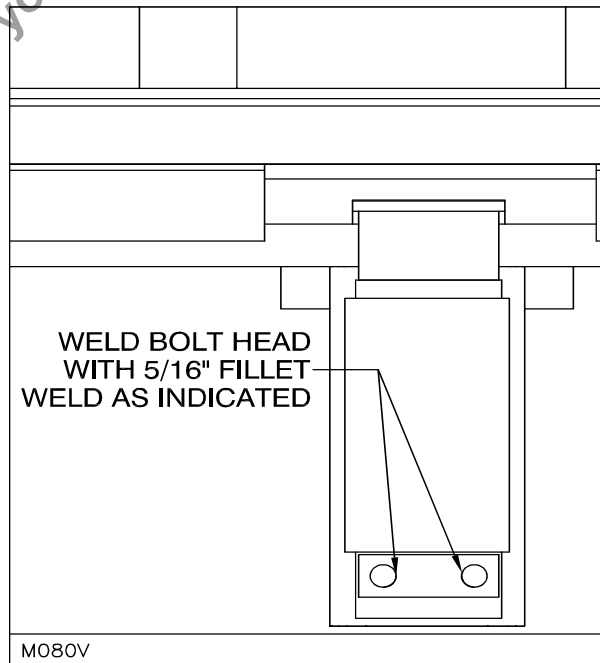

Figure 16: Tilt Bar Stop Weldment
25. ___ Weld the tilt bar bolts permanently in position to the tilt bar stops (See “Figure 16: Tilt Bar Stop Weldment” on page 24).
9. ___ Tilt Bar Stop Weldment (see “Figure 16: Tilt Bar Stop Weldment” on page 24)